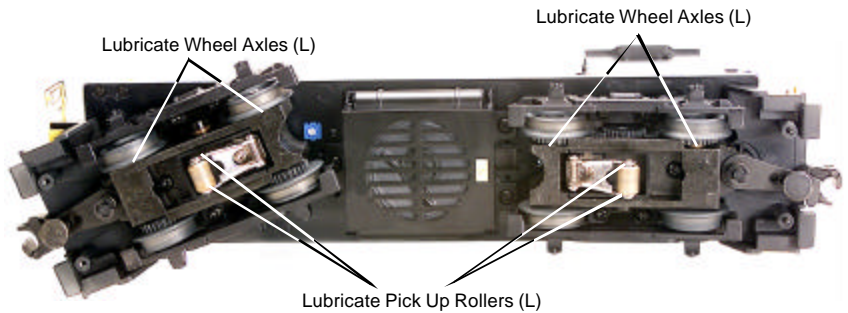
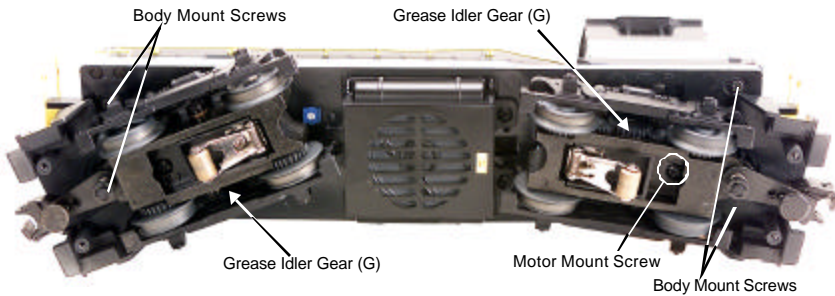

Figure 2. Lubrication Points on the Engine
Figure 3. Greasing Points on the Engine and Locations of Body Mounting Screws
Although the engine was lubricated at the factory, it is important that you lubricate the chassis before operation. Lightly grease the outside idler and drive gears (marked “G” in Fig.3 on pg. 9) to prevent them from squeaking. Use light household oil and follow the lubrication points marked “L” in Fig. 2 on pg. 1. Do not over-oil. Use only a drop or two on each pivot point.
You should regularly lubricate all outside idler gears and pickup rollers to prevent them from squeaking. Use light household oil and follow the lubrication points marked “L” in Fig. 2. Do not over oil. Use only a drop or two on each pivot point.
1. Remove the Phillips screws from the chassis, as seen in Figure 3 on pg. 9, then lift the body away from the chassis. Use caution when removing the body to make sure the handrails clear the cab housing so that the paint is not damaged.
2. Remove the truck blocks from the chassis by unscrewing the black Phillips motor mount screw (labeled motor mount screw in Figure 3 on pg. 9) on the bottom of each truck block.
It is also a good idea to lubricate the outside truck idler and drive gears with grease occasionally. Add grease to the points marked with “G” in Figure 3.